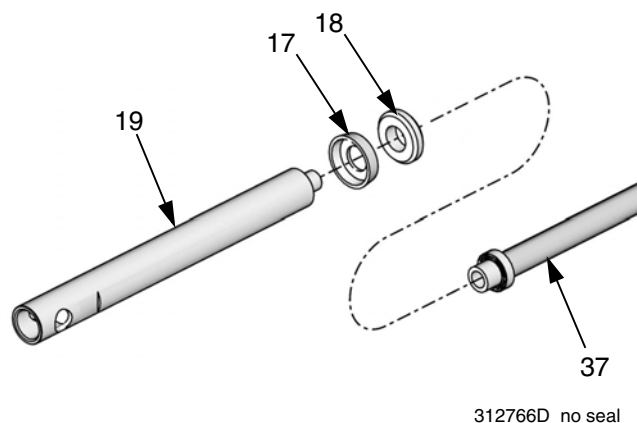

FIG. 17
1. Lubricate the packings (17) and bearing (18) with no. 2 lithium-based grease.
2. Install the one cup packing (17) with the lips facing up, bearing (18), and second cup packing (17) with the lips facing down on the pump connecting rod (37). See FIG. 17.